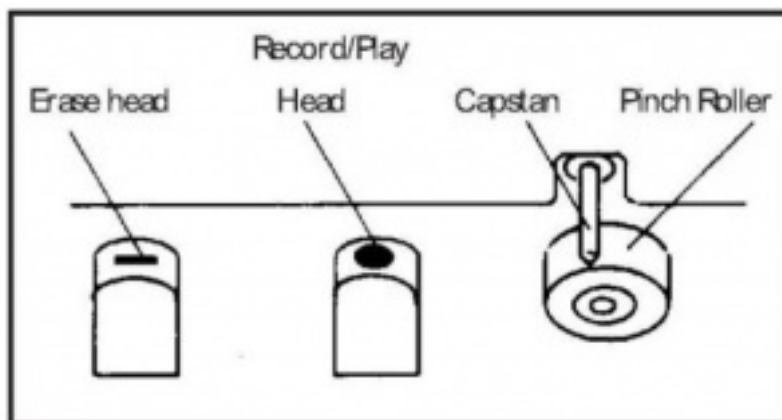

Fig. 2
Take up any loose layers, using a pencil or hexagonal barreled ballpoint pen, before inserting the cassette into the machine (**see Fig.2**)
- If the cassette feels tight while performing operation shown (see Fig.2), the tape may be jamming due to ridges formed in the winding of the tape (visible through the center window). These may be removed, in most cases, by fast winding of the cassette from one end to the other and back again.